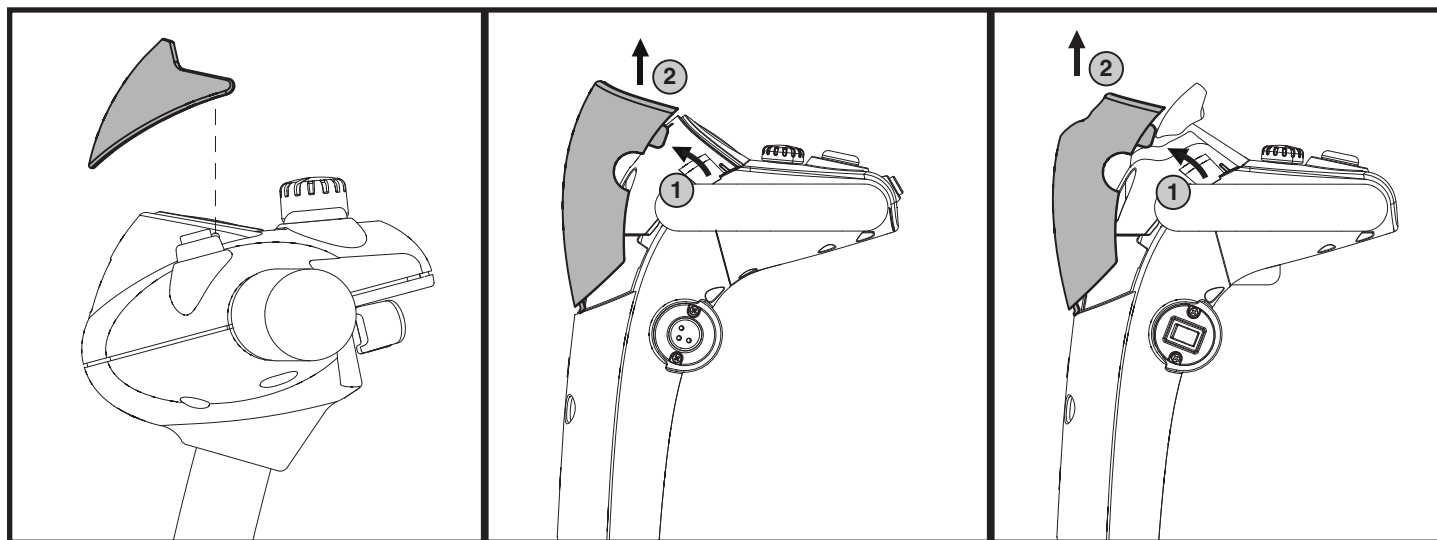

Figure 18. Tiller Console Visor
1. Gently pull the top of the visor away from the tiller console, then slowly lift it up and away from the tiller console. See **figure 18**.